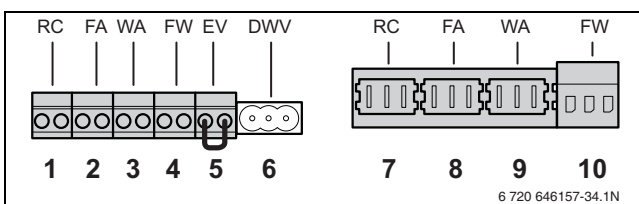

Fig. 37 External connection board connections
▶ Connect a Room- or Cascade controller to the orange RC terminal (→ fig. 37) (→ § 7.1.4, page 26).
▶ Connect the outdoor temperature sensor to the blue FA terminal (→ fig. 37).
▶ Connect the potential-free heat demand contact (On/Off thermostat) or relay panel end switch to the green WA terminal (→ fig. 37).
▶ Remove the cable from the EV terminal (→ fig. 37).
▶ Connect the external switch contact to the red EV terminal (→ fig. 37).